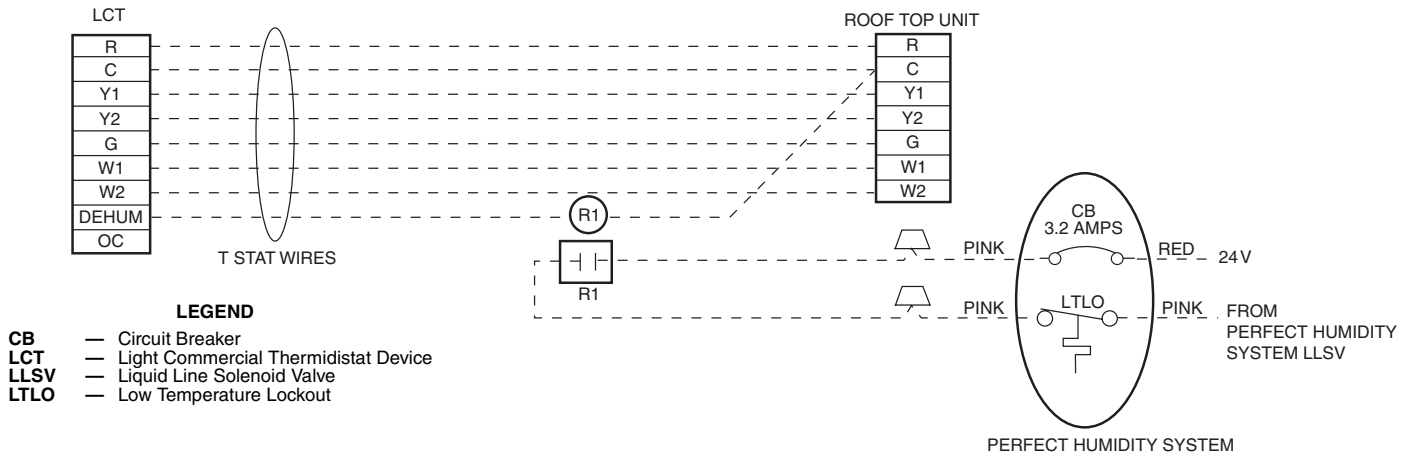

Fig. 14 — Typical Rooftop Unit with Perfect Humidity Dehumidification System with Thermidstat Device
- A field-supplied relay must be installed between the Thermidstat device and the Perfect Humidity™ circuit (recommended relay: HN612KK324) Fig. 14. The relay coil is connected between the DEHUM output and C (common) of the unit. The relay controls the Perfect Humidity solenoid valve and must be wired between the Perfect Humidity fuse and the low-pressure switch. Refer to the installation instructions included with the Bryant Light Commercial Thermidstat device for more information.